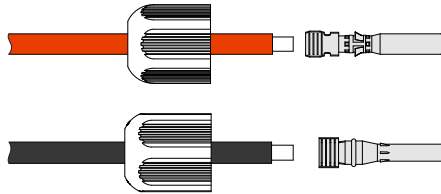

Figure 3-33 Crimp the metal terminal
- Step 2 Unscrew the lock nut of positive and negative connection, lead the positive and negative wires go through corresponding lock nut, and then insert the positive wire and negative wire into the positive metal terminal and negative metal terminal respectively. Crimp the metal terminals firmly by crimping pliers, as shown in Figure 3-33.
Step 2 Strip wire for about 10mm, as shown in Figure 3-33.